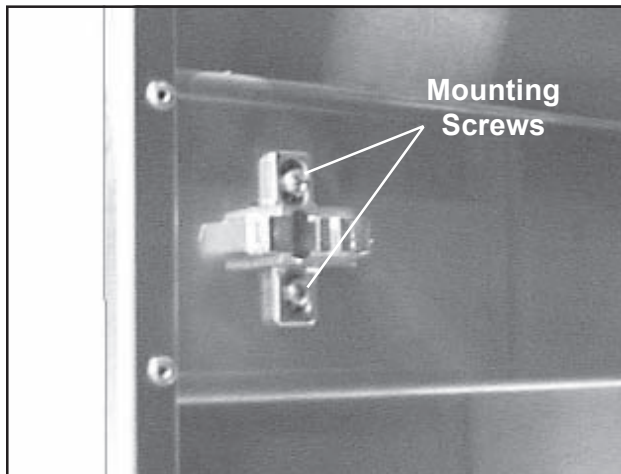

Figure 17. Door Hinge Mounting Plate
3. With a Phillips screwdriver, remove the two screws on the hinge mounting plate and remove the plate from the cabinet wall (Figure 17).